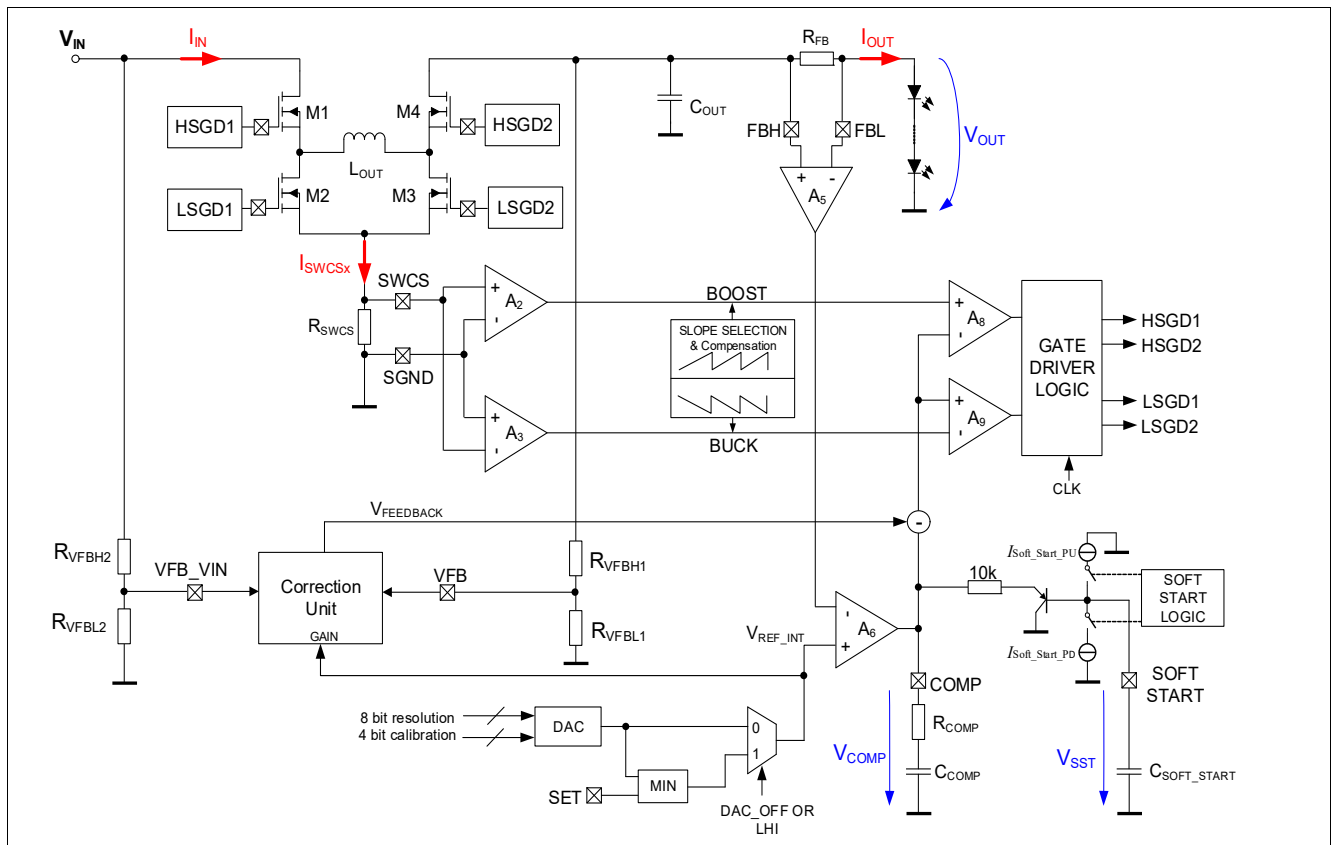

Figure 7 Regulator Block Diagram - TLD5542-1
The control loop block diagram displayed in Figure 7 shows a typical constant current application. The voltage across R_{FB} sets the output current.
An Infineon proprietary correction unit (see **Figure 7**) ensures optimum performance on MFS architecture, minimizing dependency of comp voltage by the analog dimming value, and reduces overshoots during load jump up.
- Limit input inrush current and output overshoots by limiting Vcomp (**Figure 7**) in boost mode
The Soft Start routine limits the inrush current during boost mode by clamping the COMP pin through a buffer as in **Figure 7**. Therefore this functionality is effective only when Soft Start capacitor is sufficiently larger than the comp capacitor.